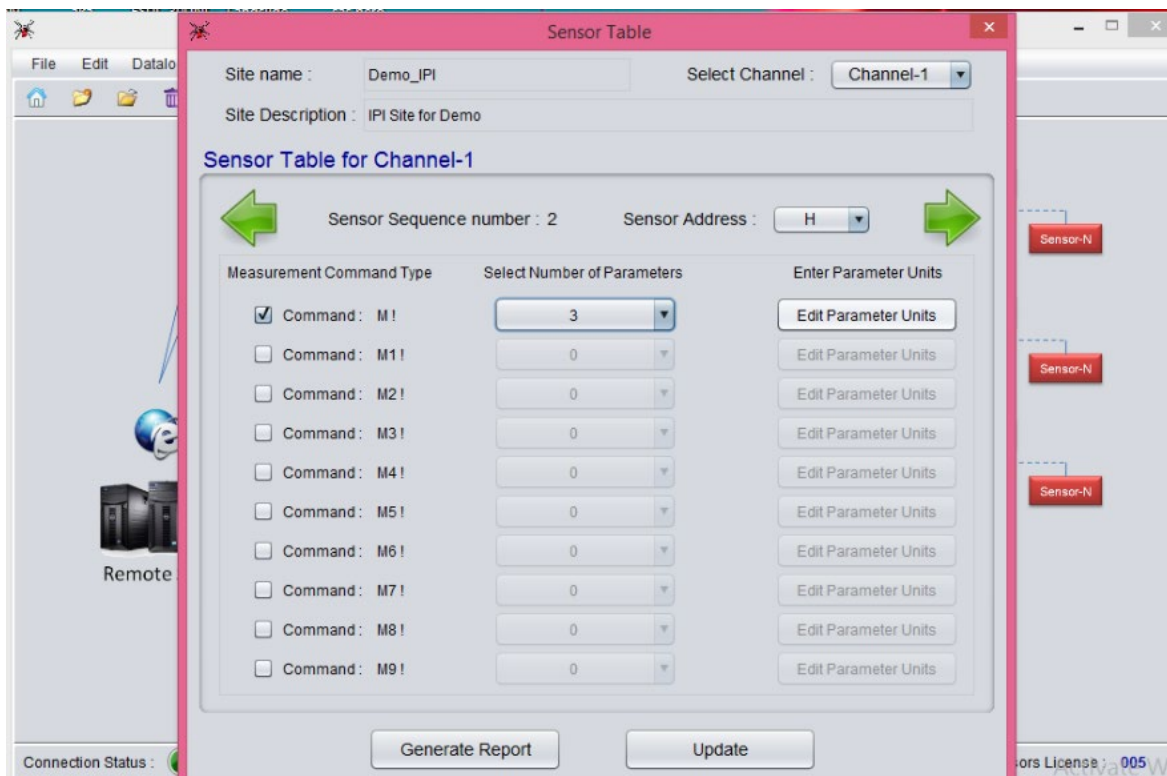

Figure 7-19 Selecting next sensor to be programmed in Sensor Table window
- 18 Click  (figure 7-19) to define the parameters of next sensor connected and repeat the steps mentioned in Point no. 13 & 14 and so on. After defining parameters for all the sensors connected to the Datalogger, click "Update" button.